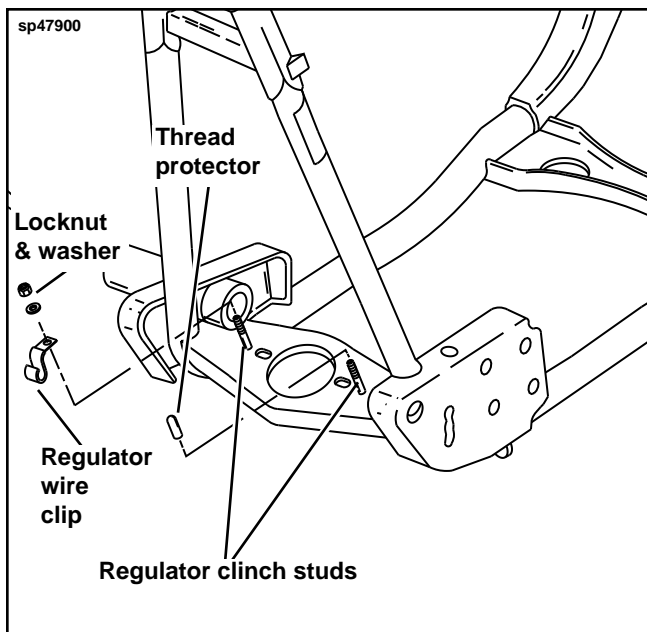

Figure 2. Frame - 1995
10. See Figure 2. Place regulator wire clip over the right side bolt. Place the regulator in position.
11. See Service Parts Illustration. Install stock washer and locknut on 1/4-20 X 1-1/4 in. hex bolts (3). Tighten to 6 - 8 ft-lbs.